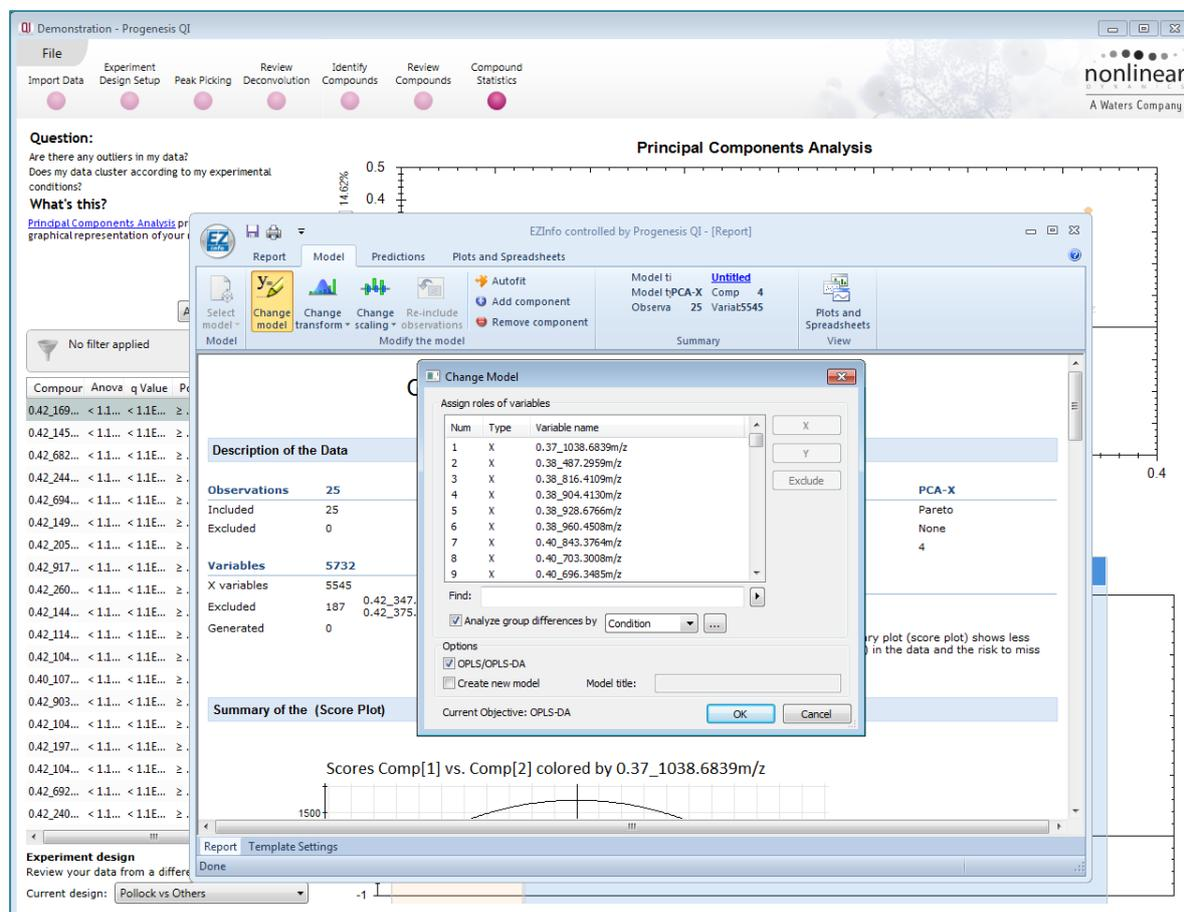

Figure 23: From the **Model** tab, select **Change model**. In the **Change Model** box, select to analyze group differences by condition, and select OPLS-DA.
9. In the dialog, select **Analyse group differences by** “Condition” and select “OPLS-DA” (Figure 23). Whether you create the analysis as a new model or not is not important for the purpose of this demonstration (in this case, the box is unticked, so replacing the initial model).